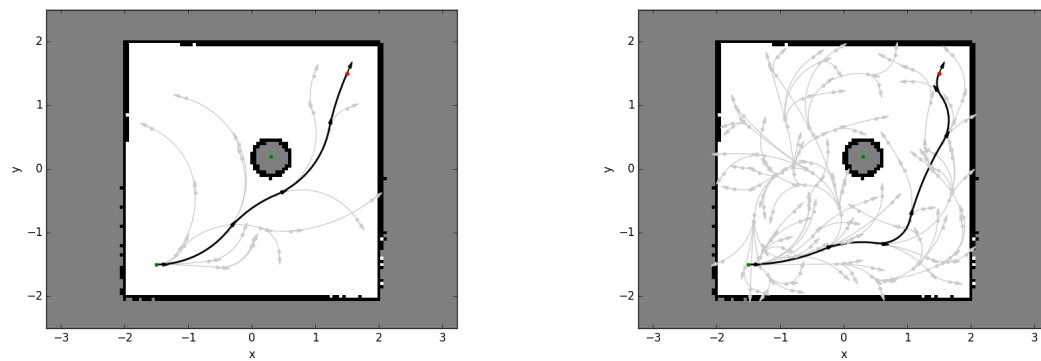

Figure 9: Paths generated by RRT
- (b) The method of Rapidly exploring Random Trees (RRT) is used to plan a path to the goal. This method samples random points in the free space and attempts to connect the point to other points to build up a tree which explores the area of the free space. Figure 9 shows paths generated by my rrt method.